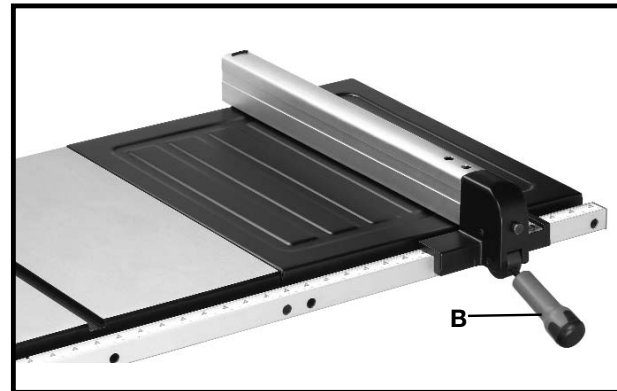

Fig. 27
3. Lower rip fence onto table as shown in Fig. 27, making certain rear clamp hooks over back edge of table.
4. The rip fence is usually operated on the right hand side of the saw table. Lift lock handle (B), and position fence on table. Push downward on handle (B), to lock fence in place on saw table.